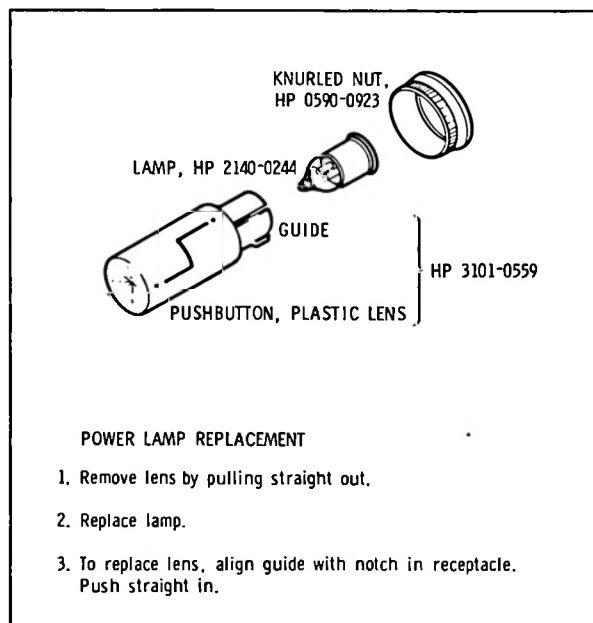

Figure 5. LINE Switch Lamp Replacement
44. LINE Switch Lamp Replacement. Figure 5 shows how to replace the lamp located in the LINE power switch.